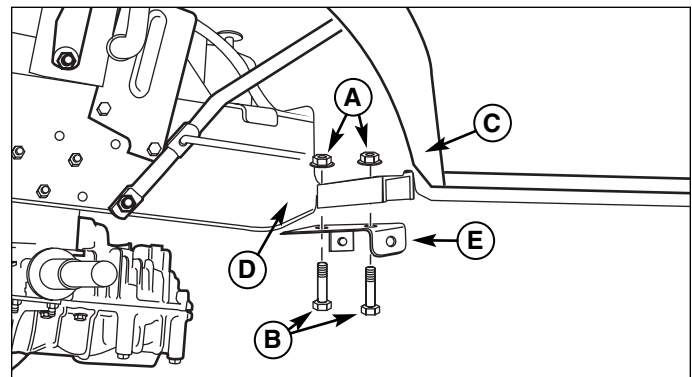

Figure 5. Bracket installation
3. Install bracket (E, Figure 5) using new 5/16-18 x 1-3/4 capscrews (B) and 5/16-18 nuts (A).